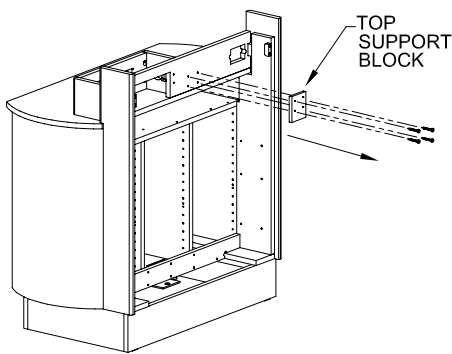
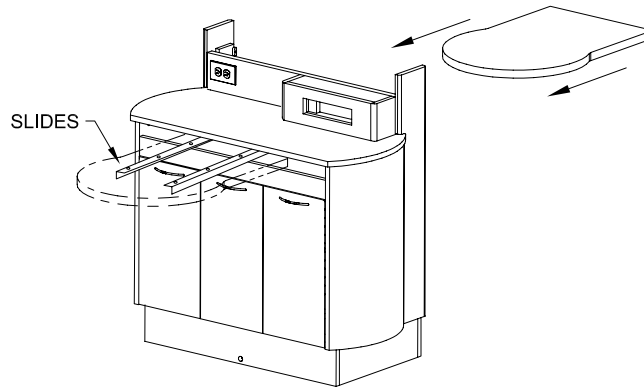
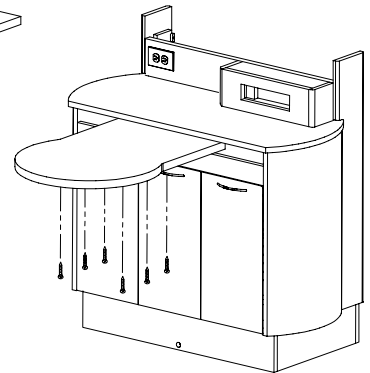

FIGURE 5A
FIGURE 5B
FIGURE 5C
Remove the top support block at the rear of the unit by removing the wood screws in the block. See Figure 5A. Insert sliding top from the rear with the slides extended. See Figure 5B. Have an assistant hold the sliding top in place and screw the (6) #10 x 3/4"PH wood screws (1/4-20 x 1/2" round head screws if cambria top) through the slides into the sliding top. See Figure 5C. Replace the top support block removed in Figure 5A.